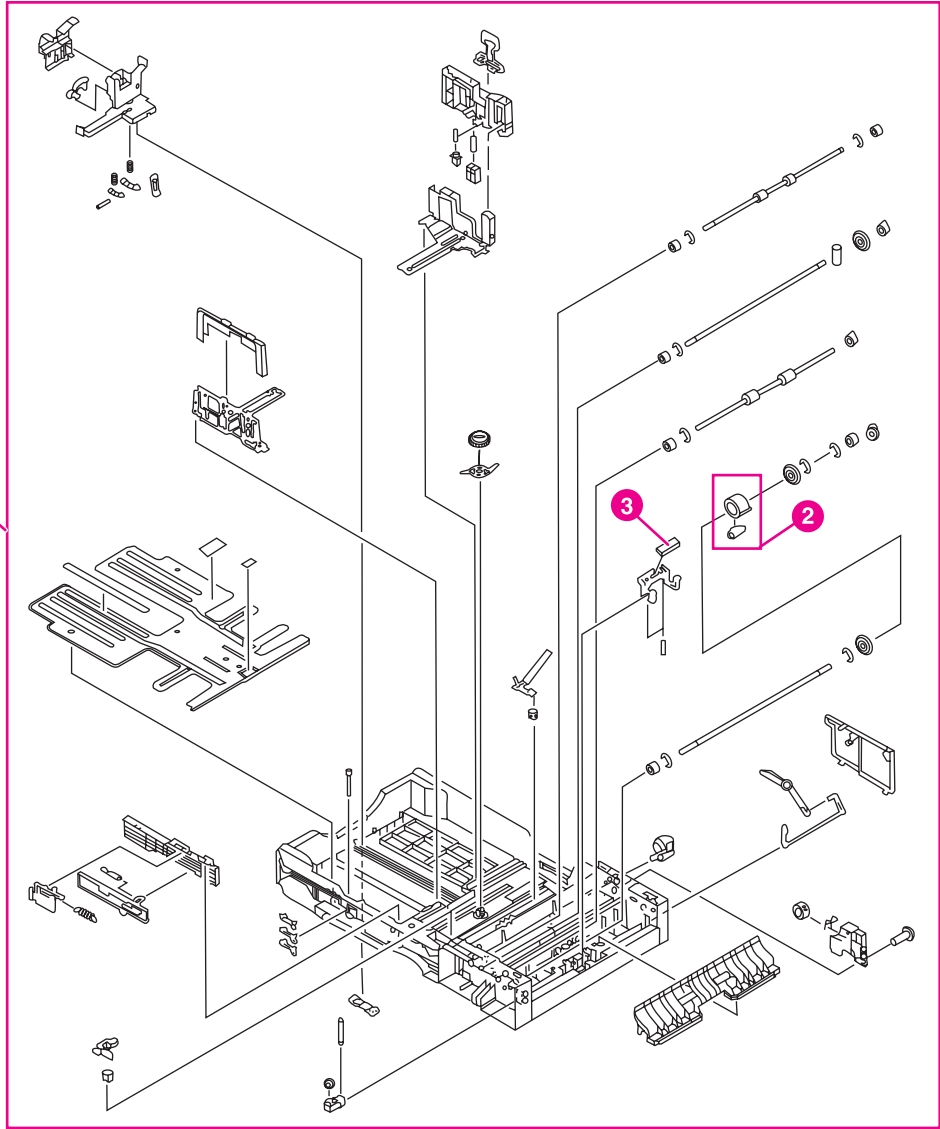
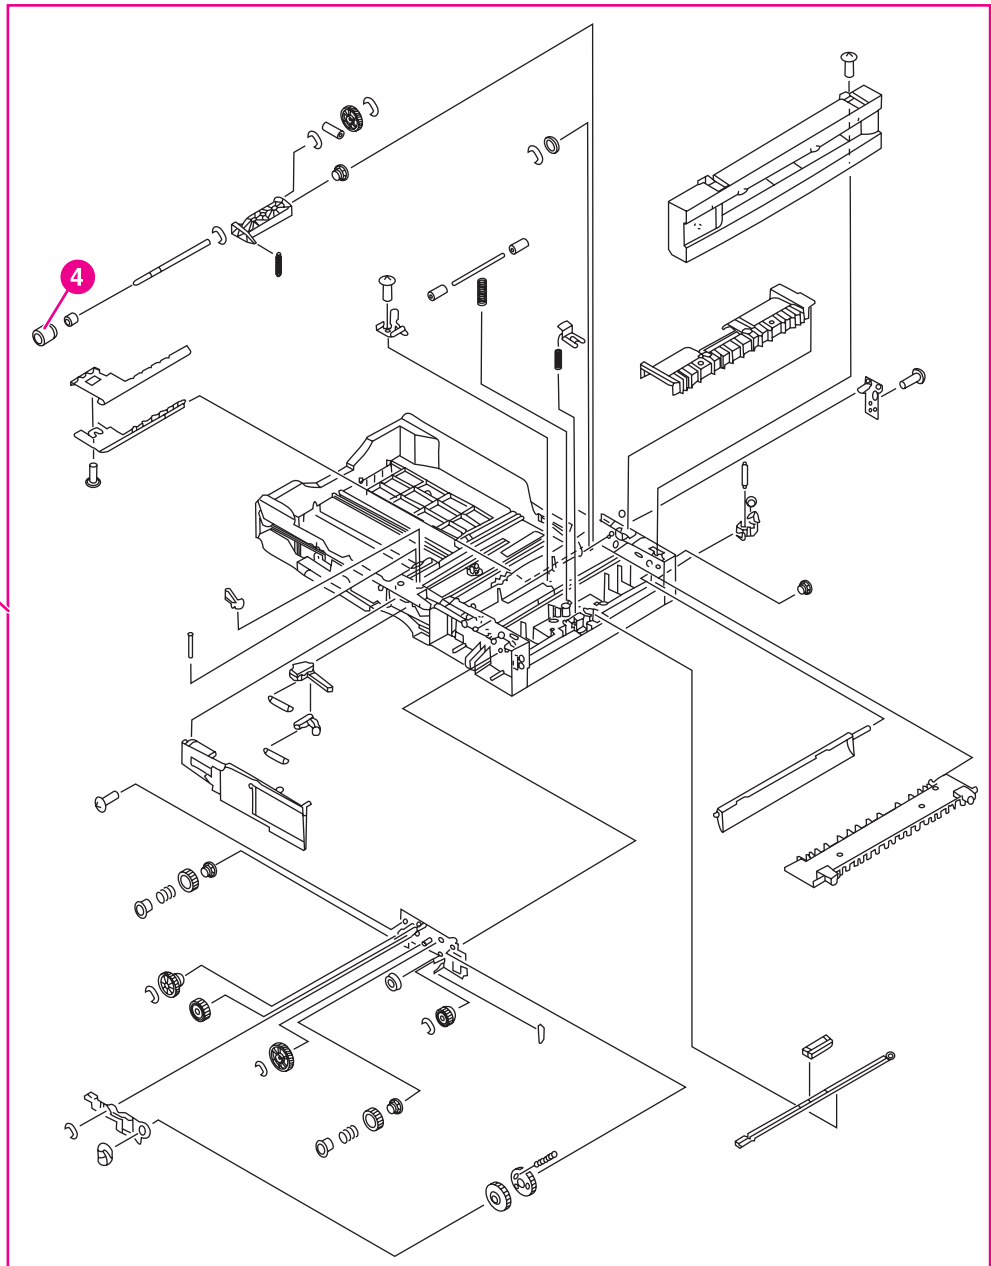

Figure 8-18. Cassette (1 of 2)
Figure 8-19.
Table 8-19. **Cassette** lists parts shown in Figure 8-18. Cassette \(1 of 2\) and Figure 8-19. Cassette \(2 of 2\). If you order a replacement cassette (item 1), you will receive all parts shown in both figures.